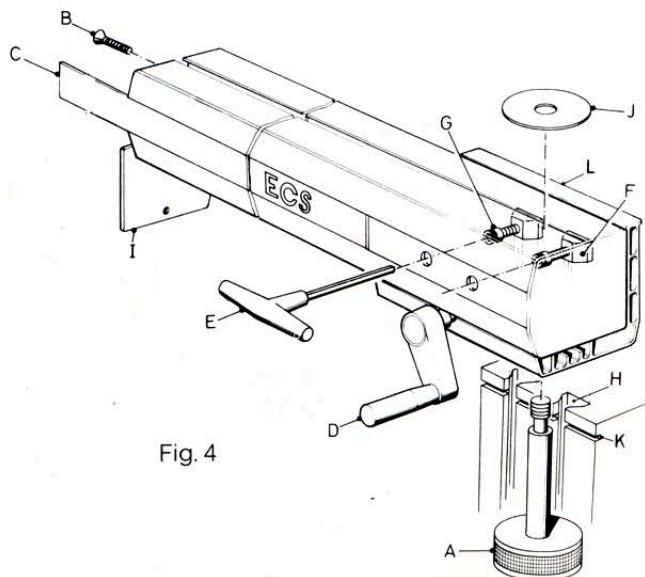

Fig. 4
- E. Mounting the ECS-4 Cross-arm: (see fig. 4)